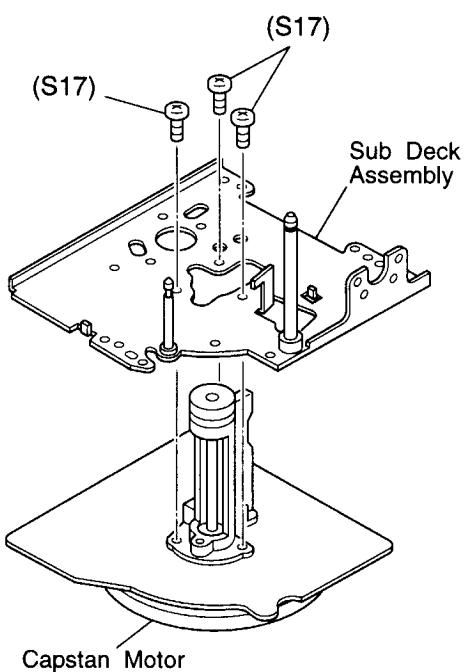

Fig.2-5-9
- (4) Take out 3 screws (S17) and remove the capstan motor from the sub deck assemby as indicated in Fig.2-5-9.